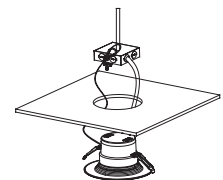

Fig. 8
- Step 3: Insert lamp conduit into the J-box and wire to power source (black to hot, white to neutral, violet to 0-10V dimming positive, gray to 0-10V dimming negative) (Fig. 8). Reattach J-box cover when done;